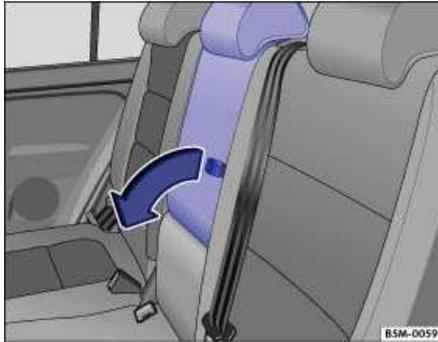

Fig. 61 Rear center armrest.
- Pull on the loop in the direction of the arrow ⇒ Fig. 61 and fold the center armrest forward. The center armrest may be used as a cup holder ⇒ .